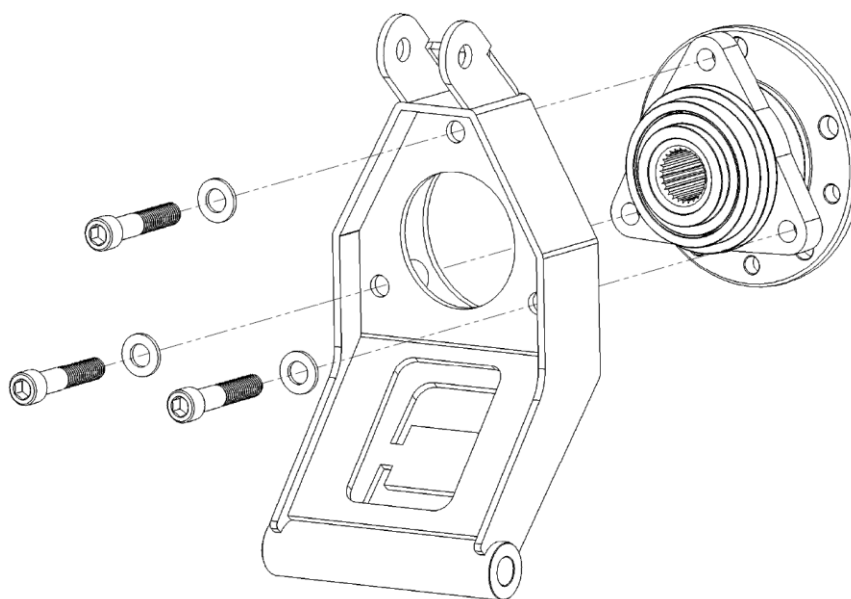

Figure 3. Install the hub as shown. Tighten the bolts in a spiral sequence to pull the hub in evenly.
- 5) Install the outer bearings into the outer uprights using the supplied 12 mm socket head bolts and washers, **and torque to 65 ft lbs** as shown in **Figure 3**. The use of thread locking compound is recommended for this step. The hub is a tight fit into the opening in the hub, so let the bolts pull the hub in as they are tightened. Tightening the bolts in a spiral sequence, like lug nuts on a wheel, will allow the hub to be pulled in evenly.